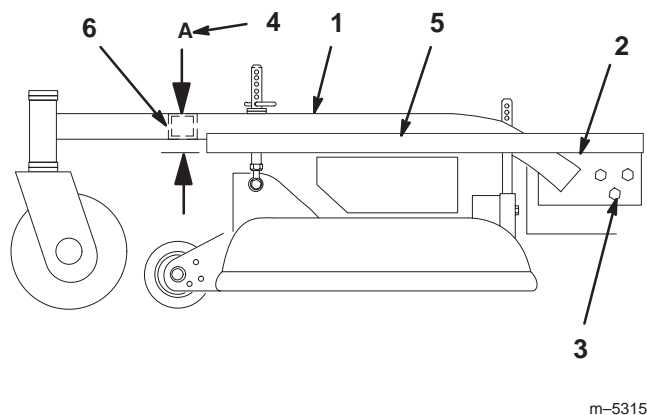

Figure 50
2. Place a long straight edge on top of the engine deck as shown in figure 50.
3. At the carrier frame cross tube, measure location "A" height (Fig. 50). This measurement must be 2–13/16 in., plus or minus a 1/4 in.
5. Loosen the carrier frame mounting bolts on both sides of the machine (Fig. 50).
6. Align the carrier frame and engine deck to match 2–13/16 in., plus or minus a 1/4 in. at location "A" (Fig. 50).